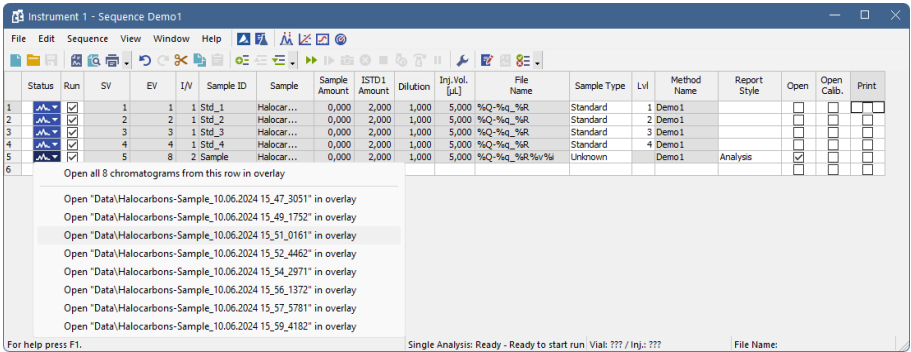

Fig. 17: Opening chromatograms in overlay
- A small triangle will appear in the icon  if a chromatograph is produced by the particular measurement in the row. Left mouse click on the triangle will open the menu where you can open the measured chromatogram(s). You can click on the name of the chromatogram to open it or select option to open all chromatograms in overlay as seen in **Fig. 17** on pg. 26.